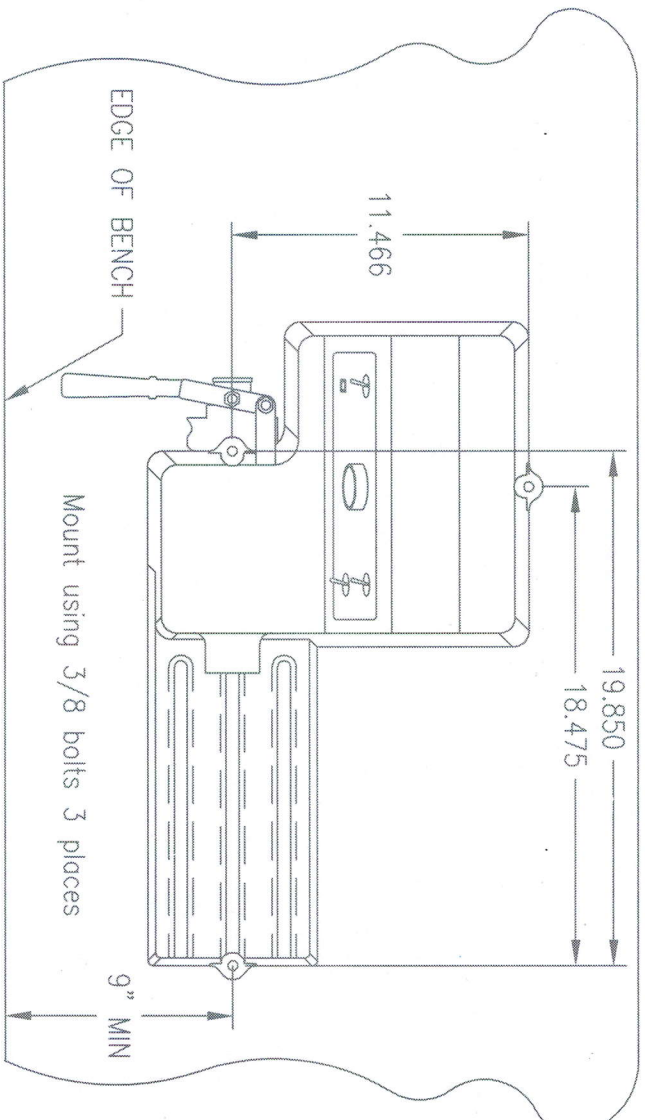

FIGURE 2
2.2 Setting up and mounting the LT-2AR (See figure 2)